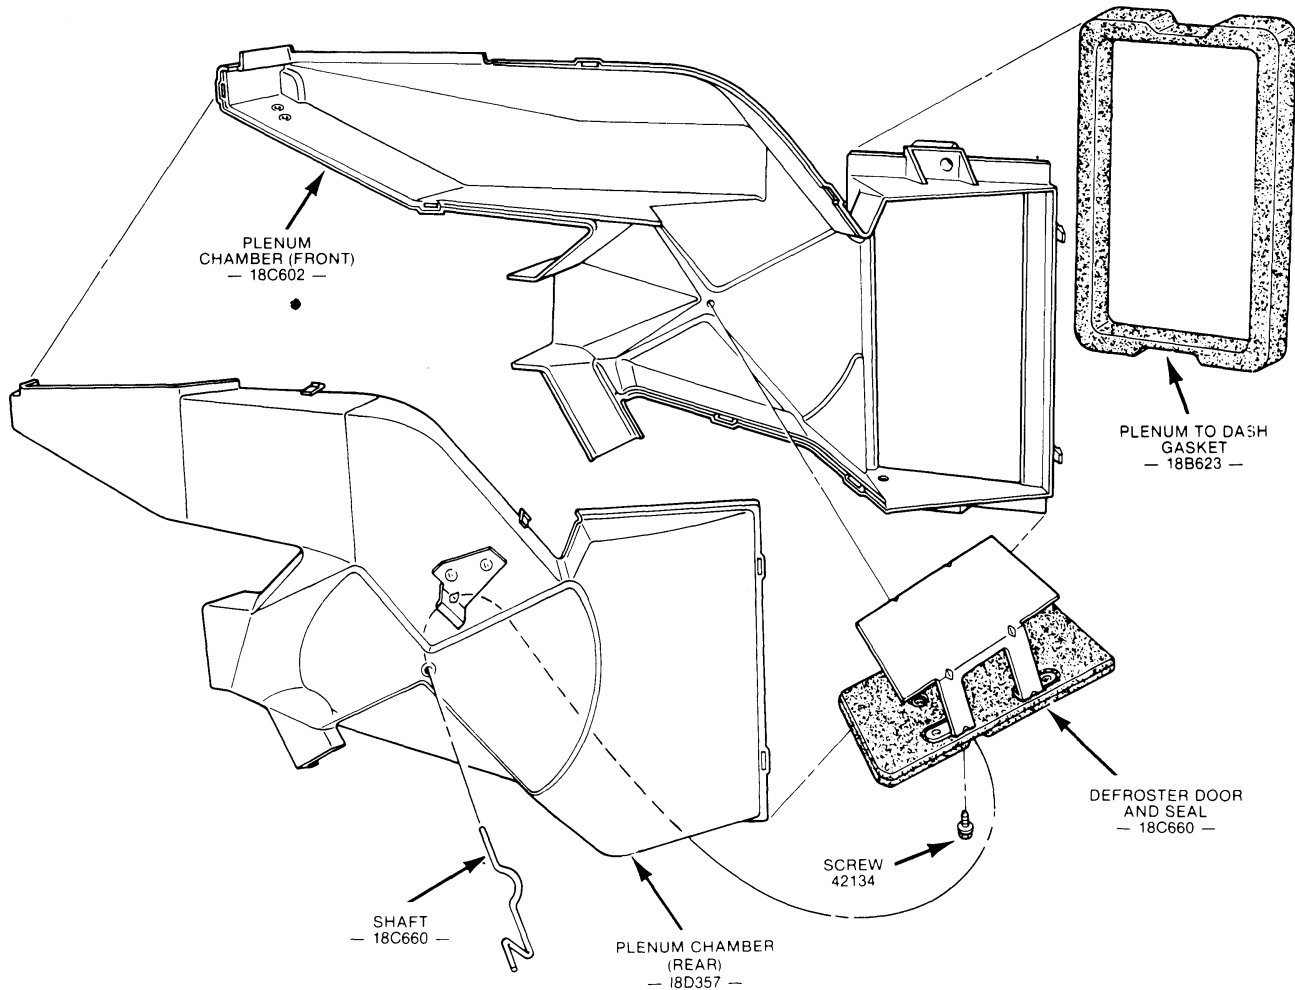

Fig. 12 — Heater Plenum Disassembled
2. Position the door to the door shaft with the metal plate above the door when in the installed in-vehicle position (Fig. 12).